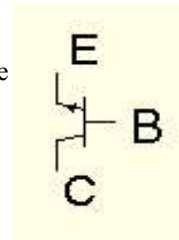

Figure 5.2
- A transistor is like an electrical switch (Figure 5.2). When the base (B) is *high*, the "switch" is essentially closed and completes the circuit between the collector (C) and the emitter (E). When the base is *low*, the "switch" is open and the current cannot flow through the transistor.